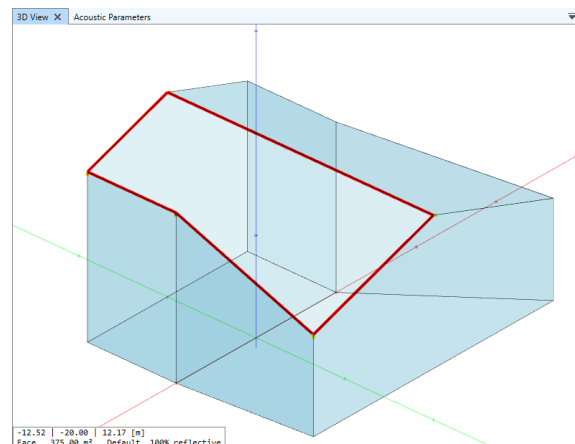

Figure 7.32 Hole outlines mode outlines missing or inverted faces in red.
2. Check for holes in the surface of the room using the PRESENTATION > GEOMETRY ANALYSIS > HOLE OUTLINES mode (Figure 7.32). Missing parts or inverted faces will be indicated with a red border.